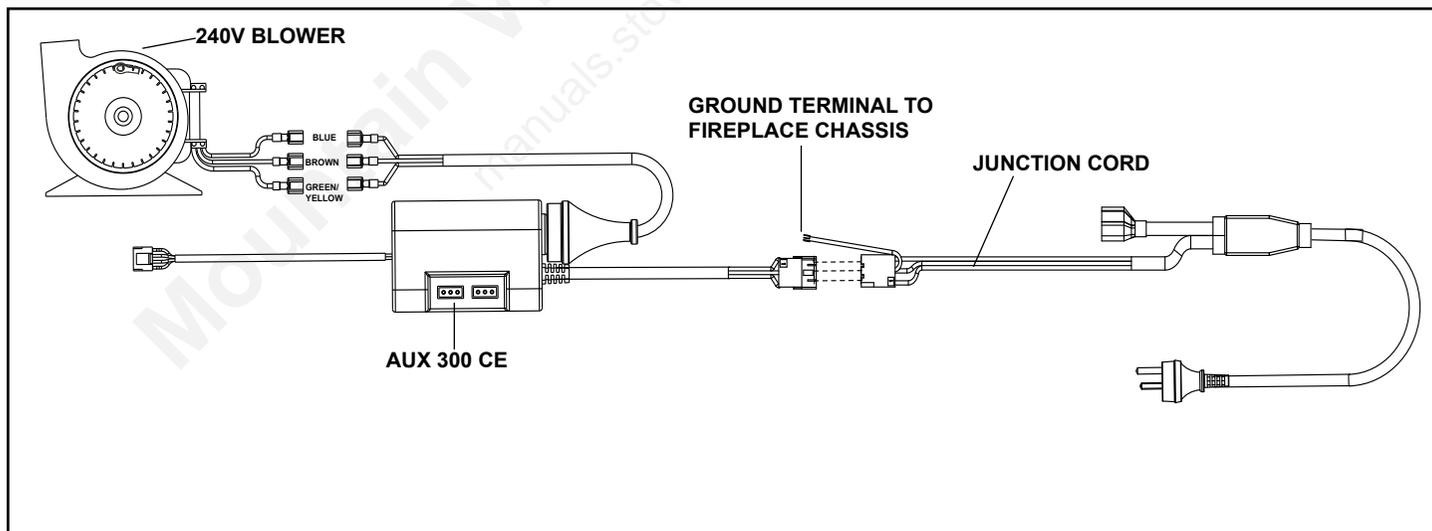

Figure 12.3 Blower Circuit-
Use of the fan requires that the Junction cord (factory installed) be connected to 220/240 VAC service before permanently enclosing the heater. The service cord is found on the right exterior side of the unit. See Figure 12.3 for wire connection detail.
2. If using a wired wall switch with the module in REMOTE mode, the flame output can be adjusted with the HI/LO selector switch on the module. See Figure 12.3. Note that the flame HI/LO selector switch will become inactive once an optional remote control (RC300AU) is programmed to the control module. Note that the control module will always ignite the fireplace on HI and remain so for the initial 10 seconds of operation. If the HI/LO is switched to the LO position, the flame output will automatically drop to the lowest setting after the flame has been established for 10 sec. After this 10 second period, the flame can be adjusted from HI to LO with the switch.